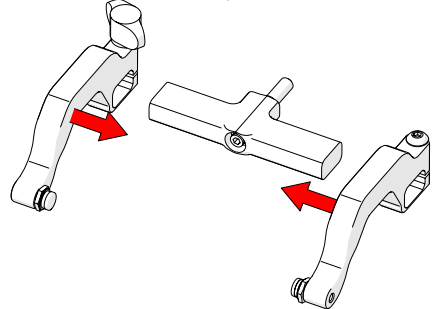

Fig. 85 - Place arms back onto yoke
6. Place the probe holder arms on the yoke and tighten the arm clamp screw and probe holder adjustment knob (Fig. 85).